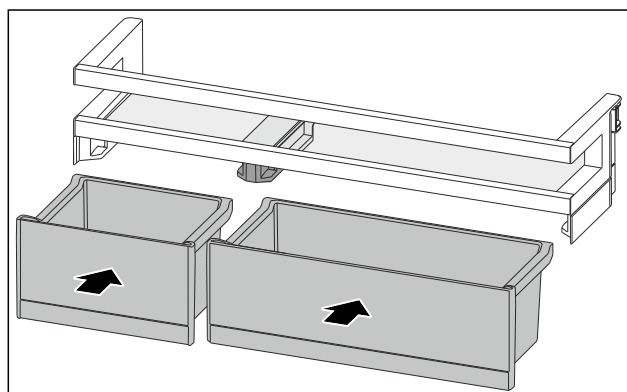

Fig. 123
- Insert the VarioBoxes opposite order. (see Fig. 123)